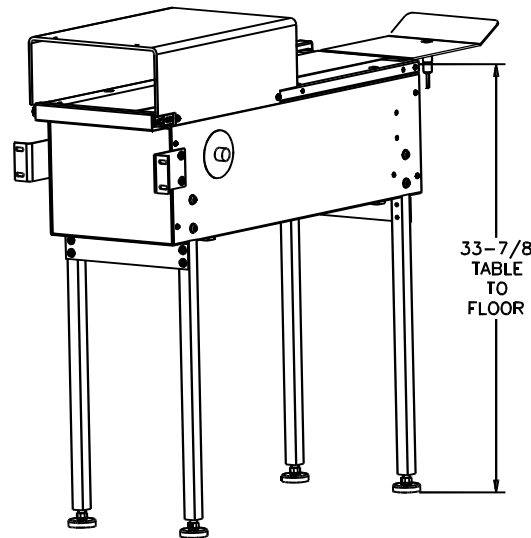

Figure 2-11. Exit Conveyor Leveling Pads
1. Remove (4) sets of screws and washers from the power panel door of the Trimmer. Save them for later use.
2. Make sure the exit conveyor's leveling pads are set to 33-7/8" as shown in Figure 2-11. Adjust as necessary.